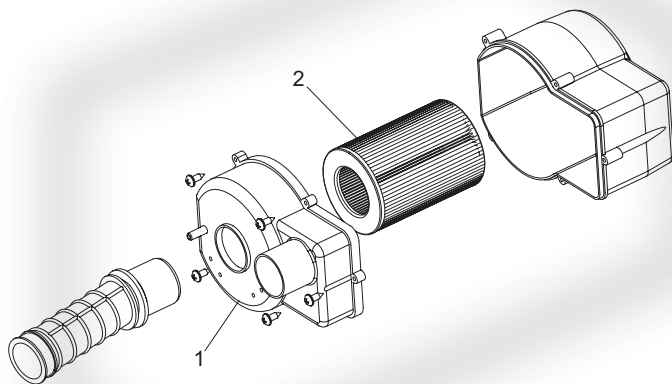

Figure 6
- b. Remove air cleaner element 2 (See Fig.6)